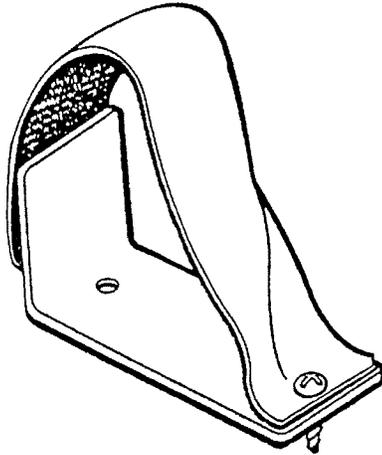

Figure 5-7. Safety Goggle Holder
- g. Safety goggles are secured in a goggle holder (Figure 5-7). Slight variations may be required to allow for different goggle styles.